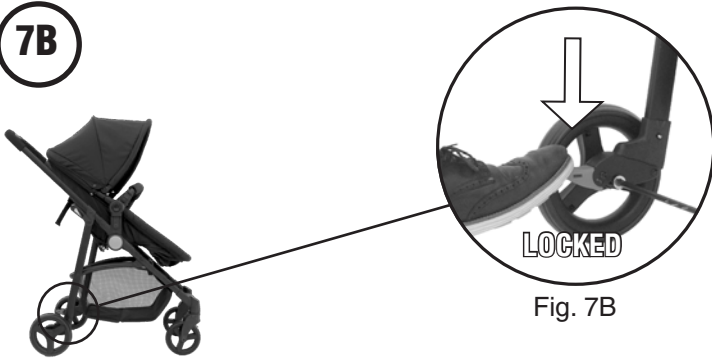

Fig. 7B
- Make sure both brake pedals are engaged before continuing (Fig. 7B).